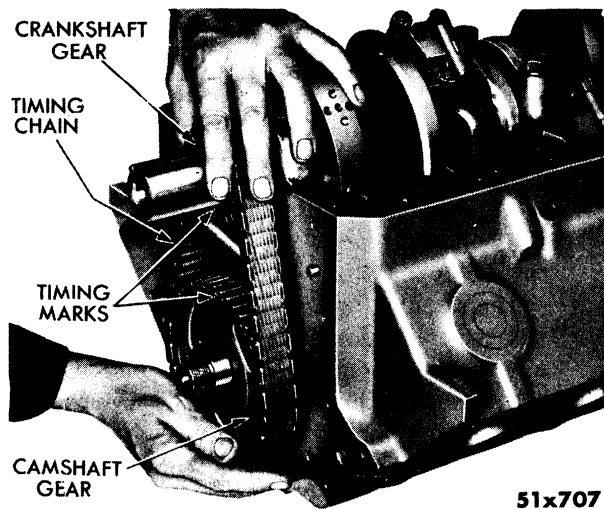

Fig. 28—Installing Timing Chain and Gear
- (3) Remove the camshaft gear and engage with timing chain. Place timing chain over crankshaft gear and, at the same time, slide the camshaft gear over the end of camshaft, keeping the timing mark in position, as shown in Figure 28.